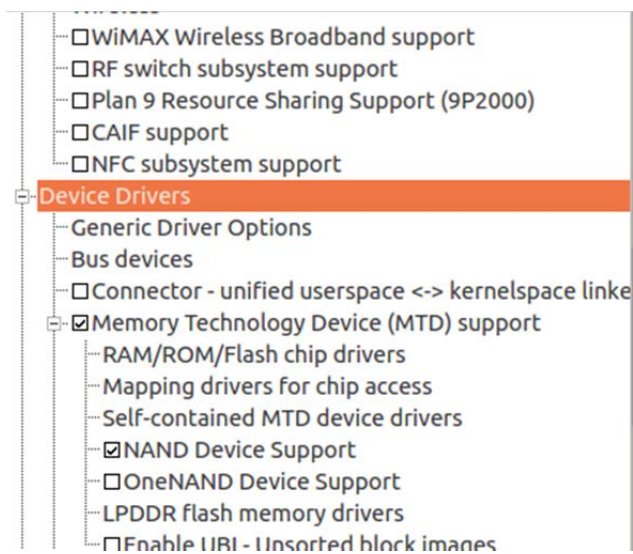
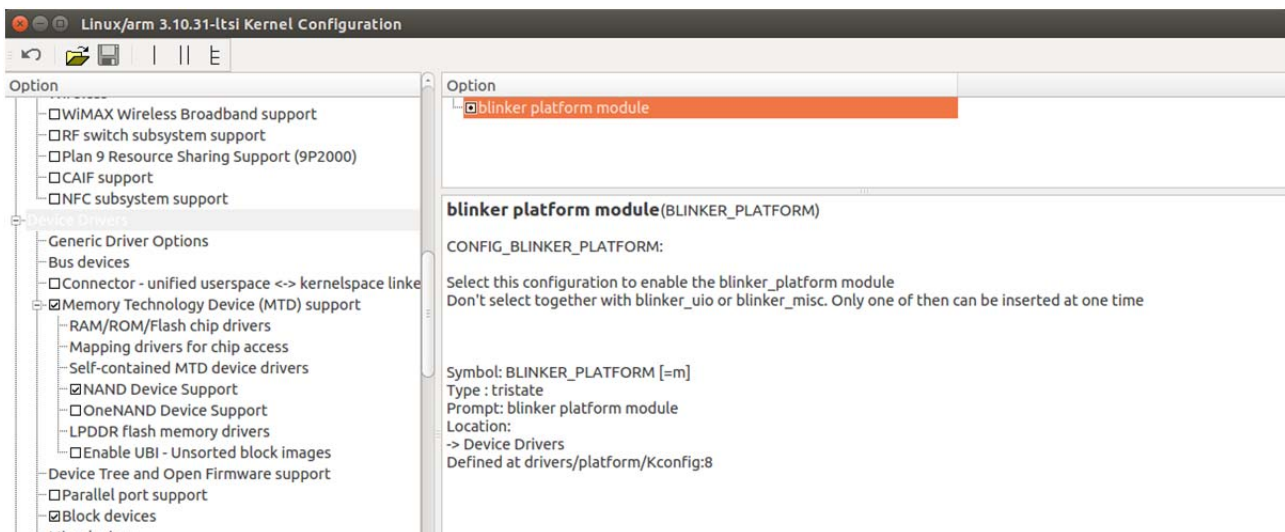

Fig. 115: Selecting a custom device driver.
Fig. 116: Kernel configuration.
- Navigate to Device Drivers and select the “blinker driver module” as shown in the Fig. 115 and Fig. 116 to enable its compilation as a loadable module, if you select the “check mark” then the module will be included as part of the kernel and it won’t be necessary to load it with the modprobe command.